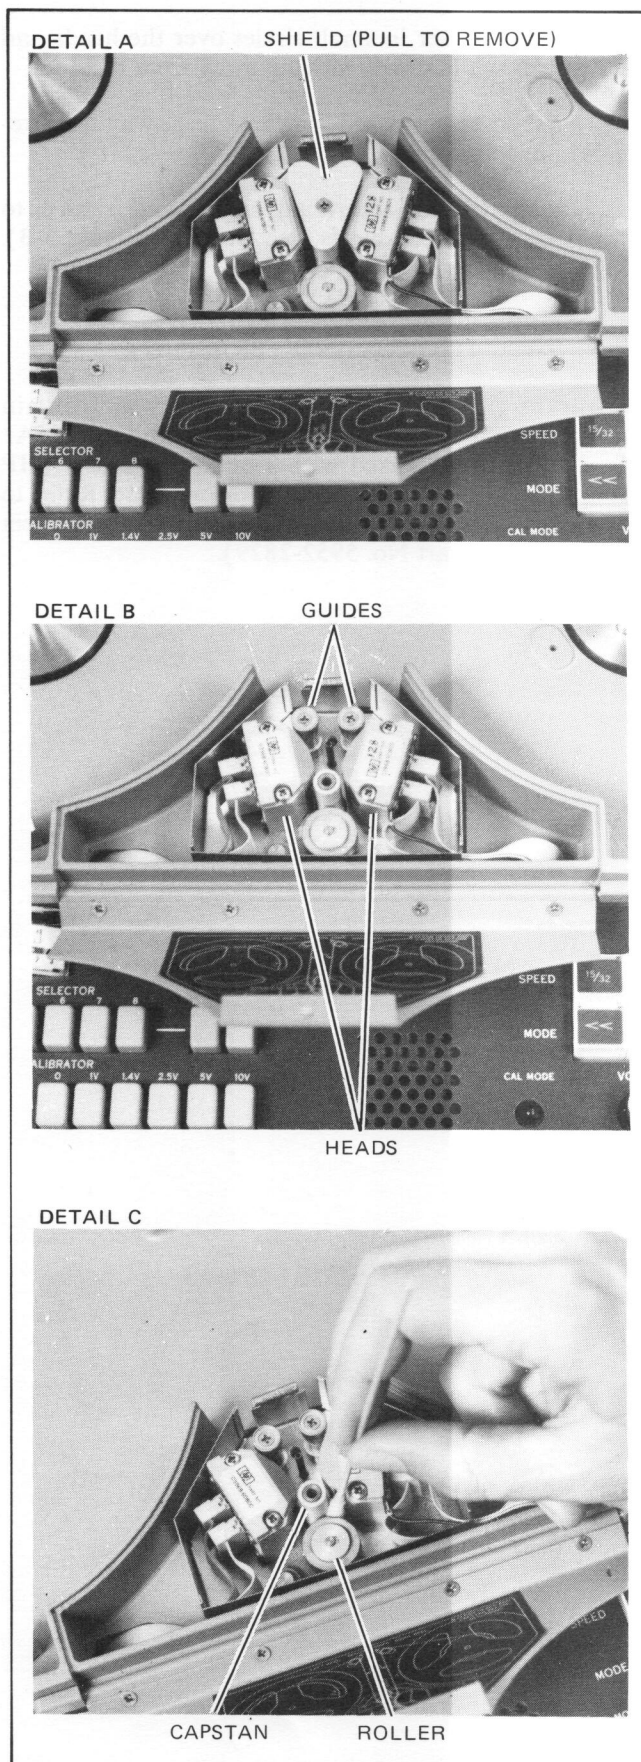

Figure 3-16. Head, Capstan and Guide Cleaning
- c. Remove interhead shield from recorder (see Detail A, Figure 3-16).
e. Using a cotton swab wet with head cleaner HP Part Number 8500-1251, (both items furnished in Accessory Kit), remove all dirt and tape residue from tape guides (see Detail B, Figure 3-16) and tension arms (see Figure 3-1).
j. Using a cotton swab wet with head cleaner, clean the capstan and pinchroller (see Detail C, Figure 3-16).